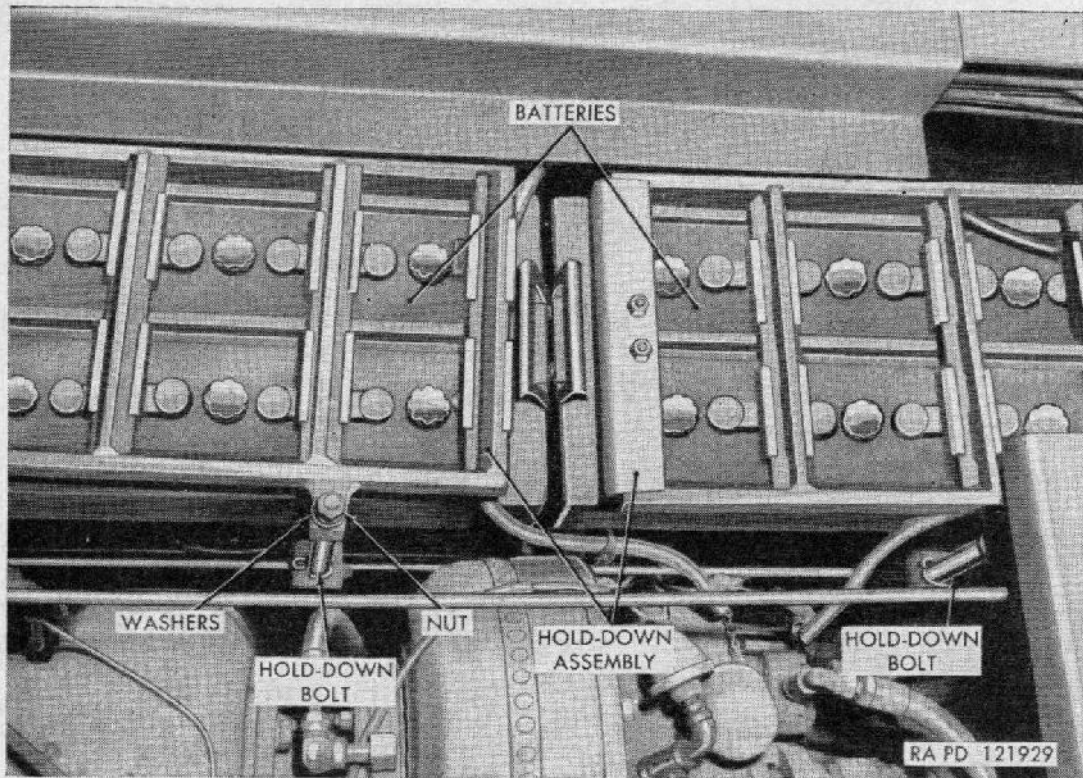

Figure 82. Batteries installed.
- (1) *System.* The battery and generating system consists of one generator, one generator regulator (fig. 58), two batteries (fig. 82), and the necessary wiring to connect the units. The purpose of the battery and generating system is to provide the necessary electrical current needed to operate the tractor and all electrical equipment included on the tractor. The generator is located to the rear of the right engine and supplies current for the batteries when the right engine is running (fig. 58).
- (2) *Batteries.* Two 12-volt wet-cell storage batteries, connected in parallel, are located in a support in the right side of hull under the floor plate in the rear seat compartment (fig. 82). The two cables connected to the negative (−) terminals of the batteries are ground to the battery support. The two cables connected to the positive (+) terminals are connected to the starter solenoid of the right hand engine. A jumper cable from this solenoid to the starter solenoid of the left hand engine is provided (fig. 44).
- (2) *Adding water.* If water is added in freezing temperatures, the batteries should be charged to mix water with electrolyte; otherwise, the water will remain on top and freeze. In cold weather, water should be added when the batteries are in a room warm enough so that the batteries can be sufficiently charged to thoroughly mix the water with electrolyte before the water can freeze. Distilled water or any approved water may be used. Do not overfill, as subsequent electrolyte expansion may cause flooding and damage. The proper filling height is approximately three-eighths of an inch above top of separators. Many batteries are equipped with a lead washer in each vent well which is designed to prevent overfilling. Therefore, add water only until it begins to rise into the vent plug well. Draw off excess in order to obtain proper level when vent caps are in place.
- (3) *Vent plugs.* Always keep vent plugs in place except when filling or taking gravity readings. Vent plugs must be in place while charging. Be sure holes in vent plugs are open.
- (4) *Keep batteries clean and dry.* Remove batteries from tractor (b below) if wet or dirty. Wash batteries with baking soda solution or ammonia, then wash with clear water. Be sure vent plugs are tight before washing.
(5) *Terminals.* Keep terminals tight and clean. If corroded, disconnect and clean ((4) above). Apply a coat of light rust-preventive compound to terminal and battery posts after replacing terminal.
b. Removal. Remove nuts, lock washers, and flat washers from the two hold-down bolts of each battery (fig. 82), and lift hold-down assembly off bolts and battery. Loosen clamp bolts in cable terminals and lift cables from battery terminals. Lift battery out of support.
c. Installation. Set batteries in support with terminals toward rear of tractor. Clean battery and cable terminals. Place the two cable terminals of positive cable on the positive terminals of each battery (these terminals are on side of battery closest to side of hull). Tighten clamp bolts. Connect the terminals of negative ground cable to negative terminals of batteries and coat terminals with a thin film of rust-preventive compound (light). Make sure the rubber hold-down blocks on cross bars of hold-down assemblies are in good condition; then place hold-down assemblies on batteries and bolts and install flat washers, lock washers, and nuts on hold-down bolts (fig. 82). Tighten nuts firmly but do not overtighten.